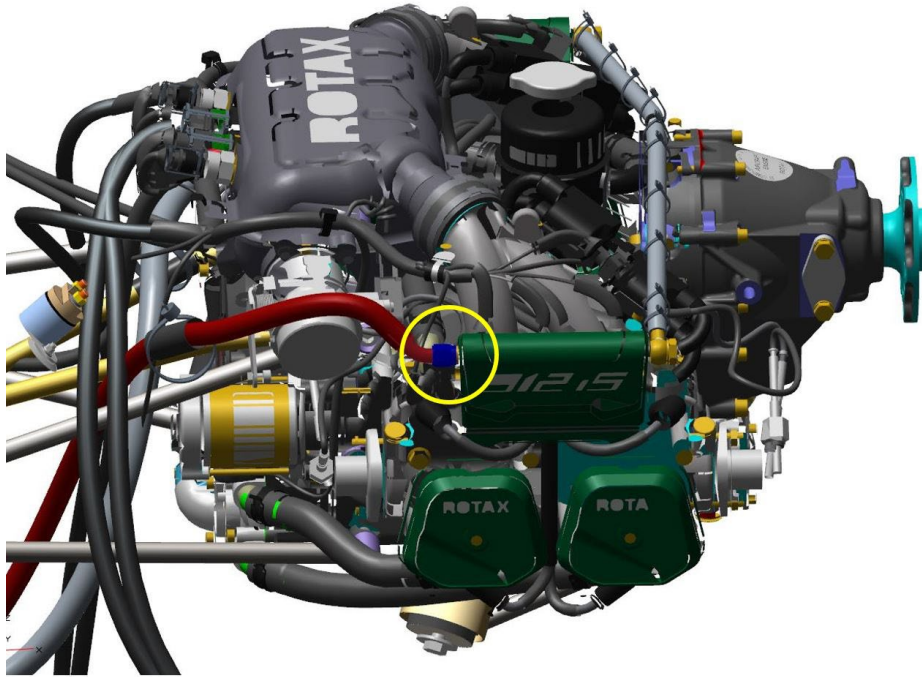

Figure 5 – AN-6 fitting on the engine.
1. Pump all fuel from tank, Figure 5: